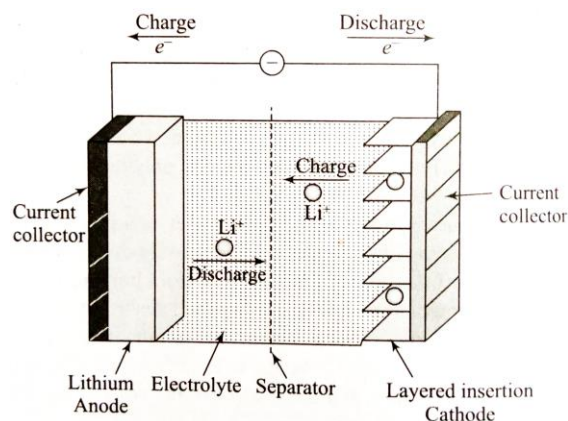

Figure 2: A typical lithium ion cell working
- The principle of LiB is shown in Fig. 2. During charging of an LIB cell, lithium ions are extracted by electrochemical oxidation from LiMnO_2 , cathode, and the extracted lithium ions are doped by electrochemical reduction into the carbon anode to form Li-GIC.